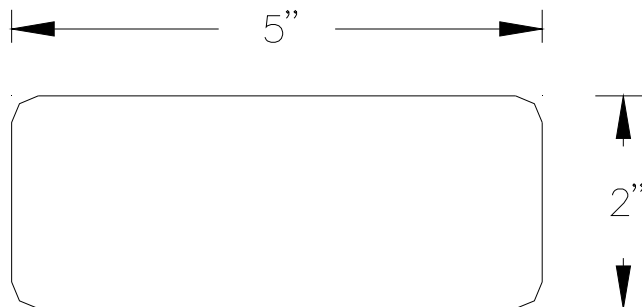

Figure 20.2.2
- 7) Make two doublers from .032 raw stock (W-143). Figure 20.2.2.